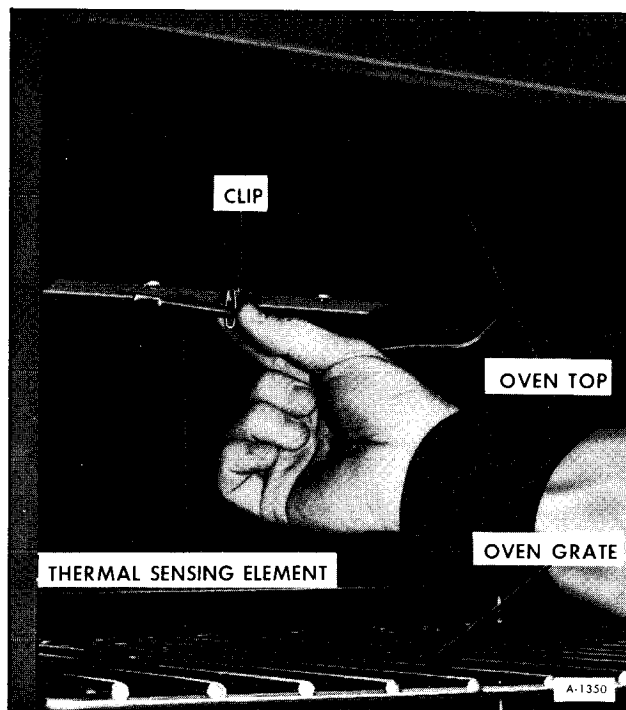

Figure 10—Removing Thermal Sensing Element
6. At the top of the oven compartment, remove the clip holding the thermal sensing element and carefully feed this element up through the hole in the top of the oven compartment (figure 10).